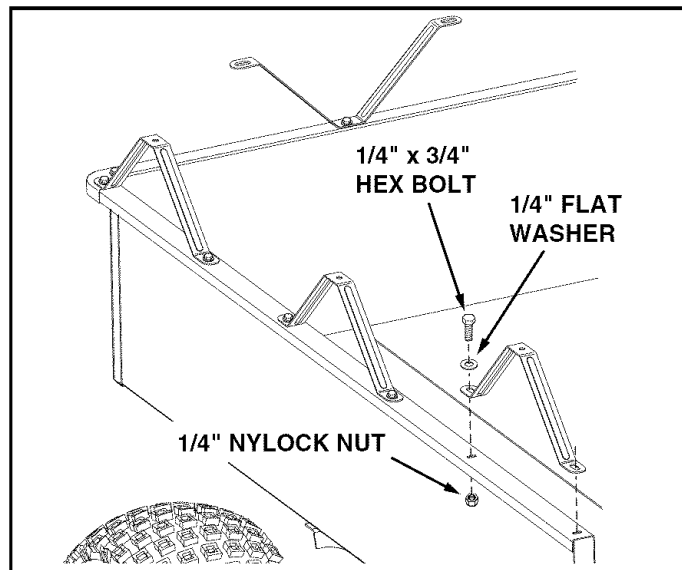

FIGURE 14
29. Assemble seven rail braces to the top flange on the sides and the front of the cart bed. Use thirteen 1/4" x 3/4" hex bolts, 1/4" flat washers and 1/4" nylock nuts. **Do not tighten yet.** See figure 14.